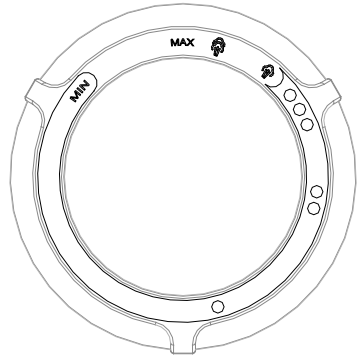

Figure 2
3. Connect plug to outlet and turn temperature dial to your desired setting, which is depended on the fabric of garment. And indicator light will be illuminated. Refer to Fig.2 and IRONING TIPS latter.